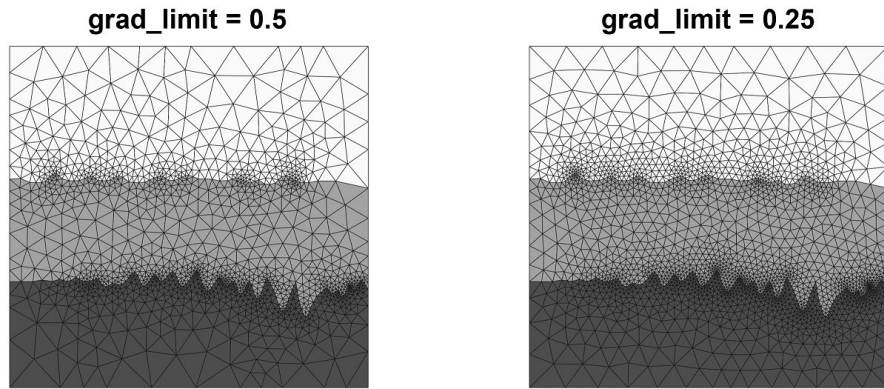

Figure 9: Effect of *Gradient-limit*
- *Gradient-limit*: A limit on the gradient of mesh-size function (Figure 9).5 Type: Float. Range:  $> 0$ . Typical value: 0.15 - 0.4.